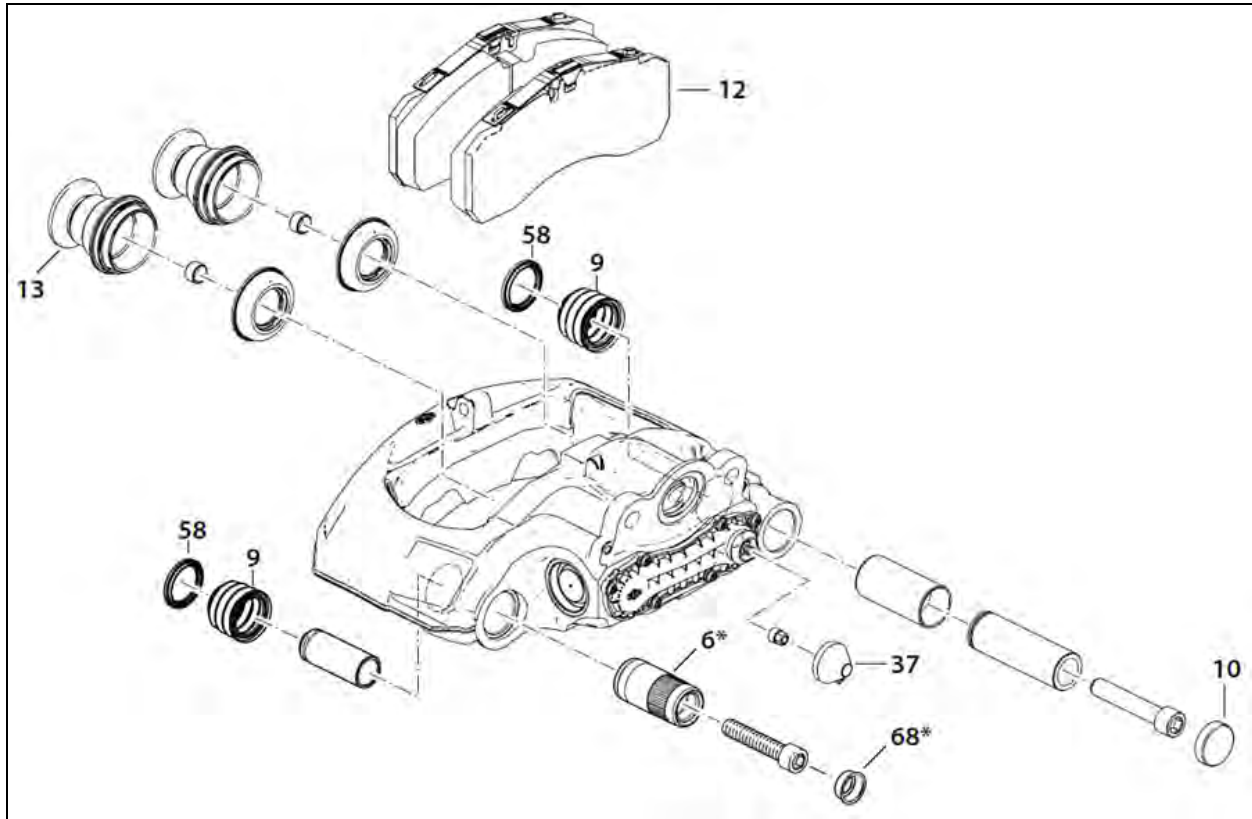
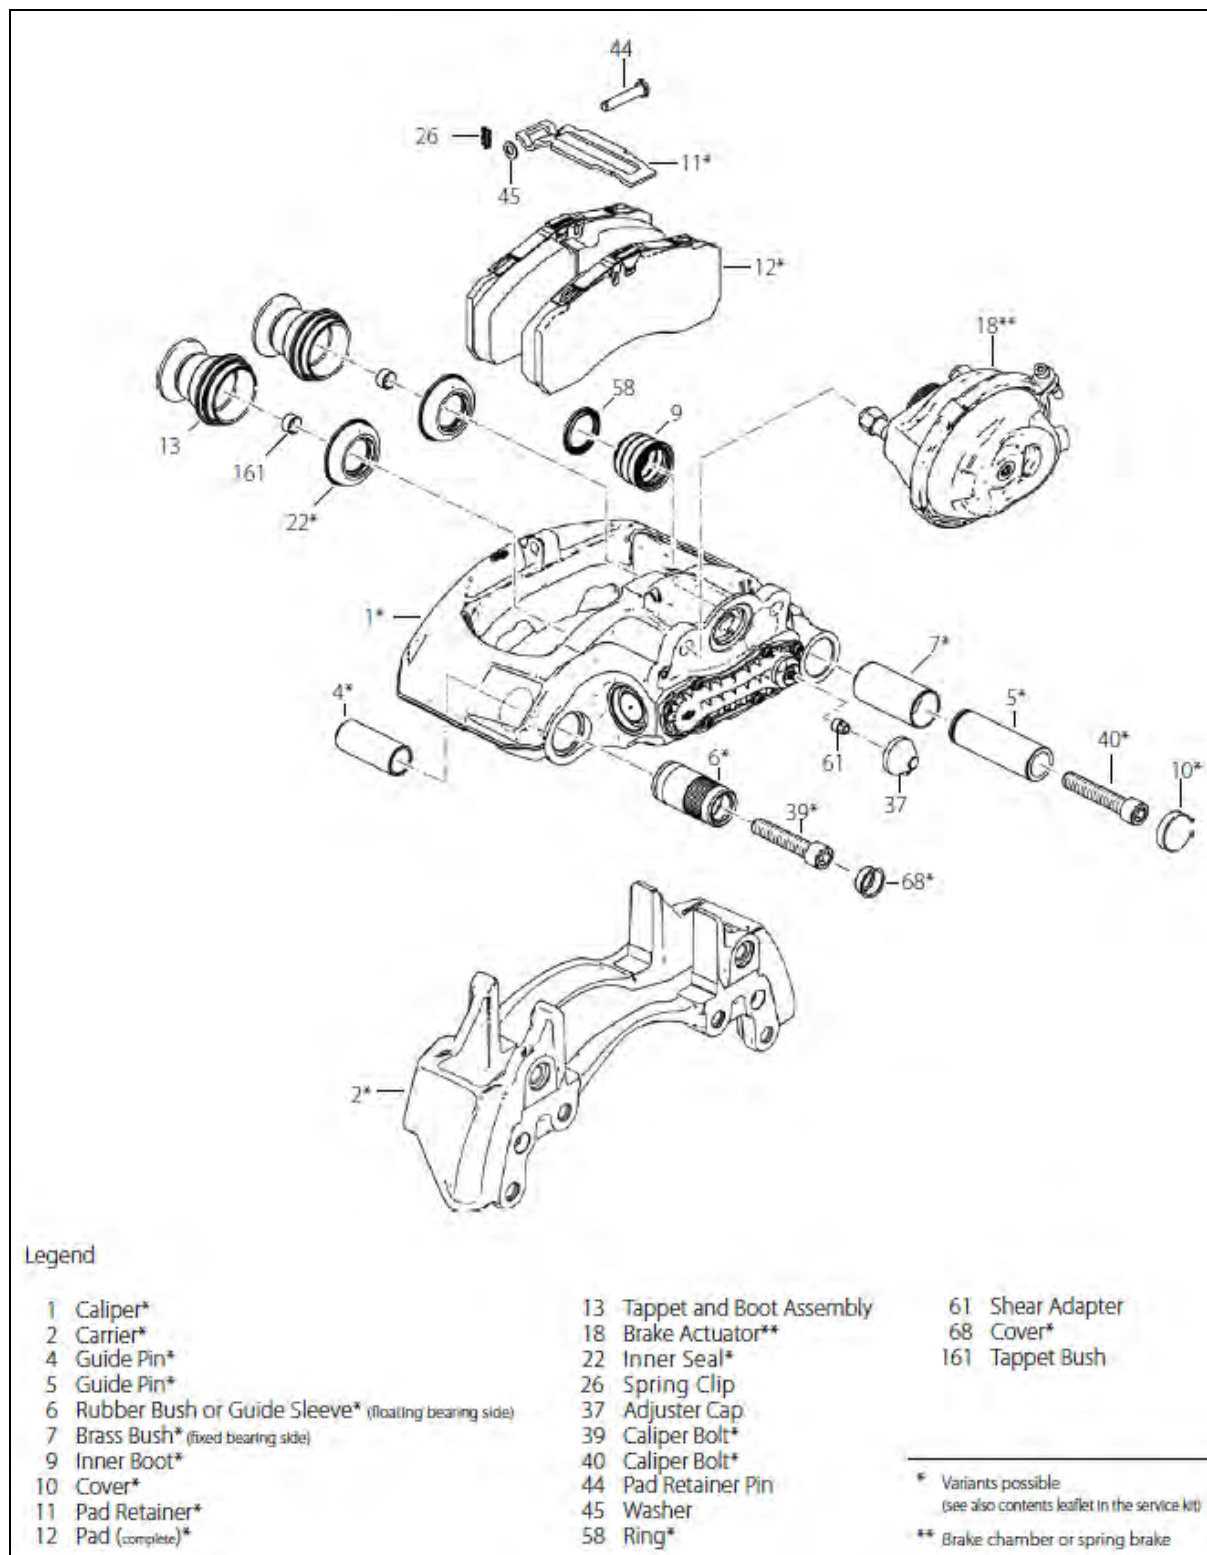

FIGURE 25: INSPECTION POINTS IDENTIFICATION
FIGURE 26: DISC BRAKE COMPONENTS
At each pad replacement, make sure the caliper operates smoothly over its full range of movement. If the caliper shows the following signs, replacement of the rubber bush/guide sleeve (item 6, Figure 25), guide pin (items 4 & 5 Figure 26, screw (items 39 & 40) and cap (items 10 & 68) is required.